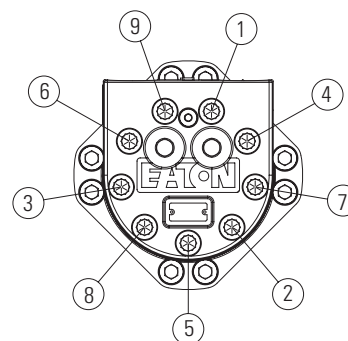

Figure 5
- Carefully invert end cap and place onto valve plate. Make sure that shuttle flow cavities are aligned. Install nine cap screws lubricated with DTE-26/DTE-24. Pre-torque each in a crisscross pattern to 80 ± 10 lb-ft. Finally, in a crisscross pattern, tighten screws to 135 ± 5 lb-ft. (See Figure 5)